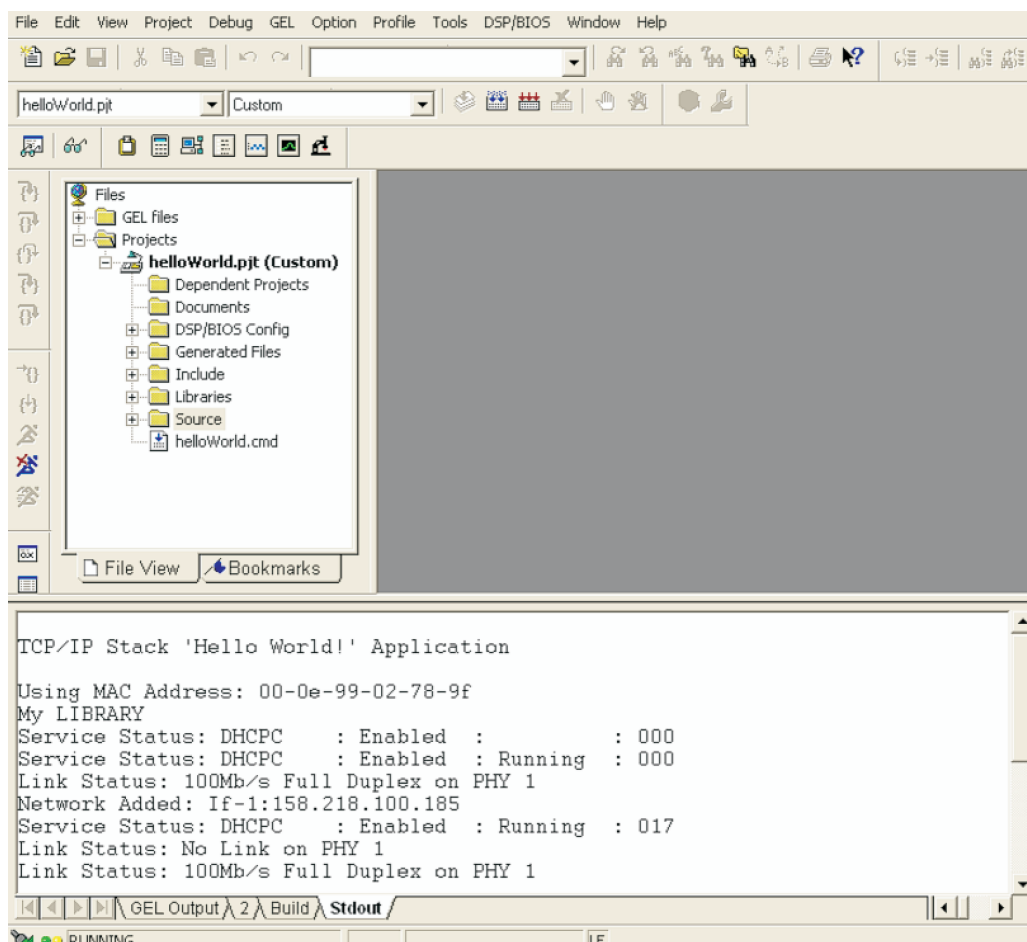

Figure 8. helloWorld Project Running Successfully on DM642
17. Build the project by selecting **F7** or go to **Project → Build** and click on it. Once the project is built without any errors, load the project onto the DM642 platform by clicking on **File → Load Program** and browse to the bin folder of the helloWorld project; select helloWorld.out. Enter **F5** or click on **Debug → Run** to start the helloWorld application on the target as shown in Figure 8